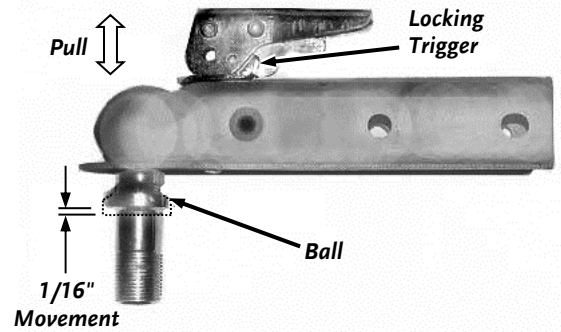

Figure 19
1. Place a 2" ball in the socket of the receiver and close the latch assembly (**Figure 19**). Verify that the locking trigger is properly engaged in its detent.